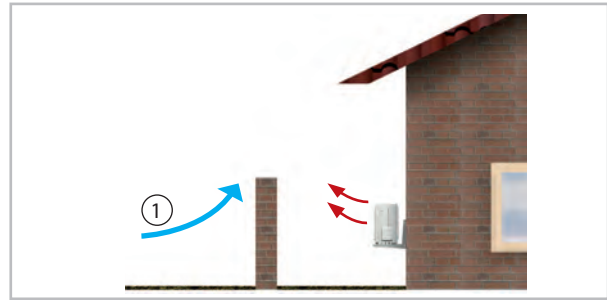
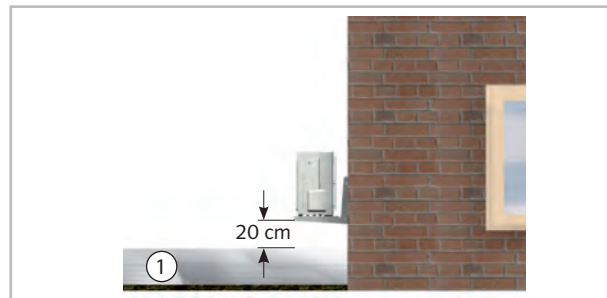

Fig. 65: Protection from wind
Fig. 66: Protection from snow
- If the outdoor module is erected in an area of strong winds, then the device must be protected against them and it is recommended an additional stabilization. This can, for example, be realized with ropes or other structures (Fig. 65). The snow line is to be observed during installation (Fig. 66).
- During installation, add about 20 cm to the expected snow depth to guarantee unimpeded intake and exhaust of outdoor air year round (Fig. 66).